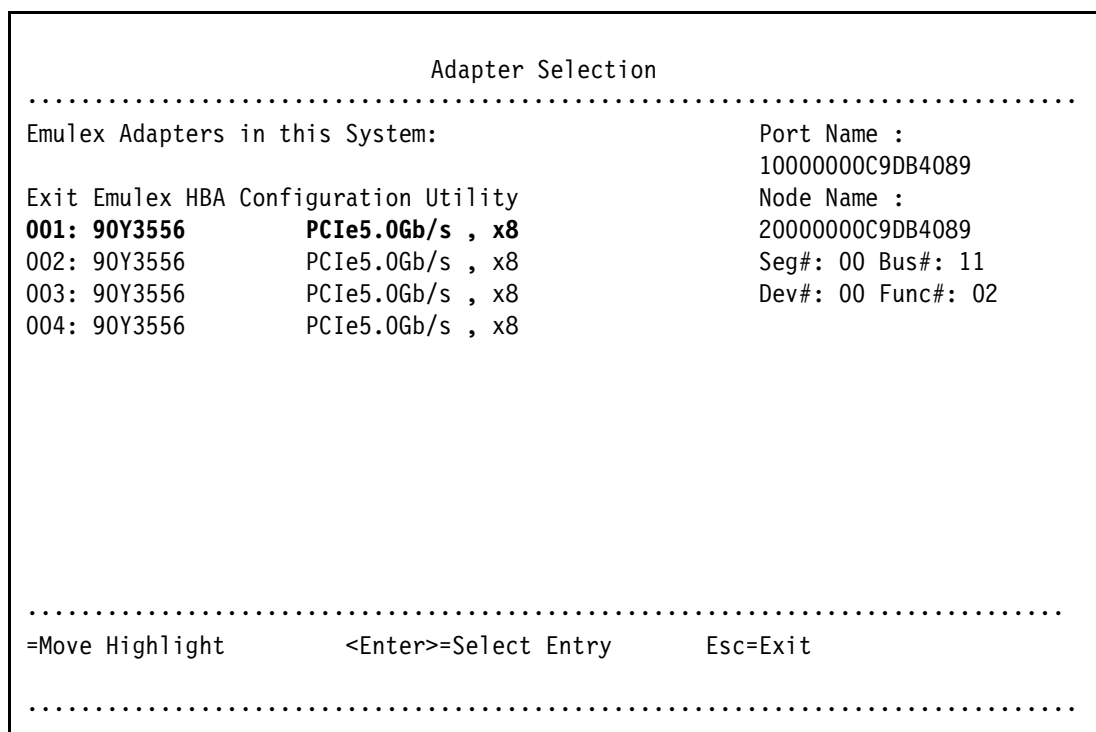

Figure 9-25 Adapter Selection panel
4. In the Adapter Selection panel (Figure 9-25), where you see two/four Emulex fiber ports, select the Emulex Configuration Setup Utility. If you do not see the entry, see 7.2, “Installing and enabling the Emulex CNA” on page 113.